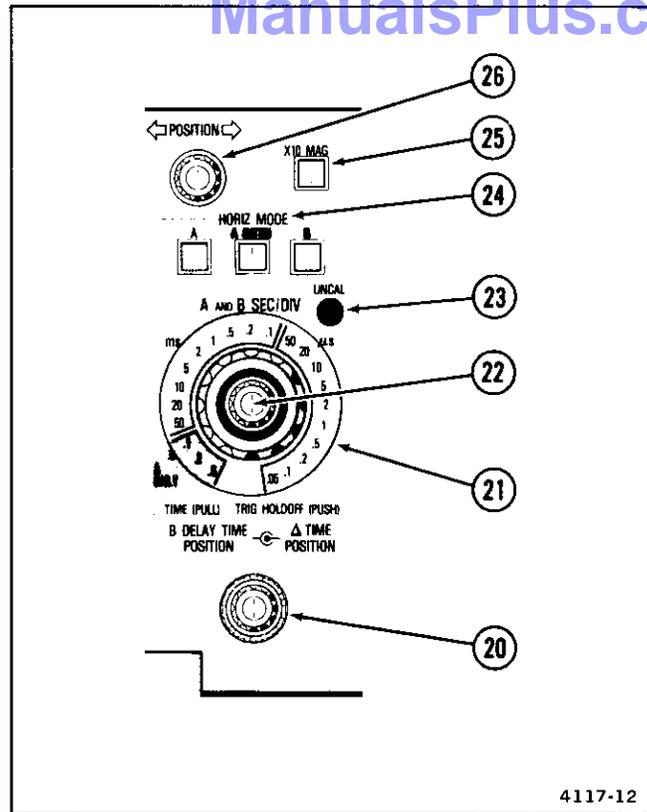

Figure 5. Horizontal controls and indicator.
Refer to Figure 5 for location of items 20 through 26.